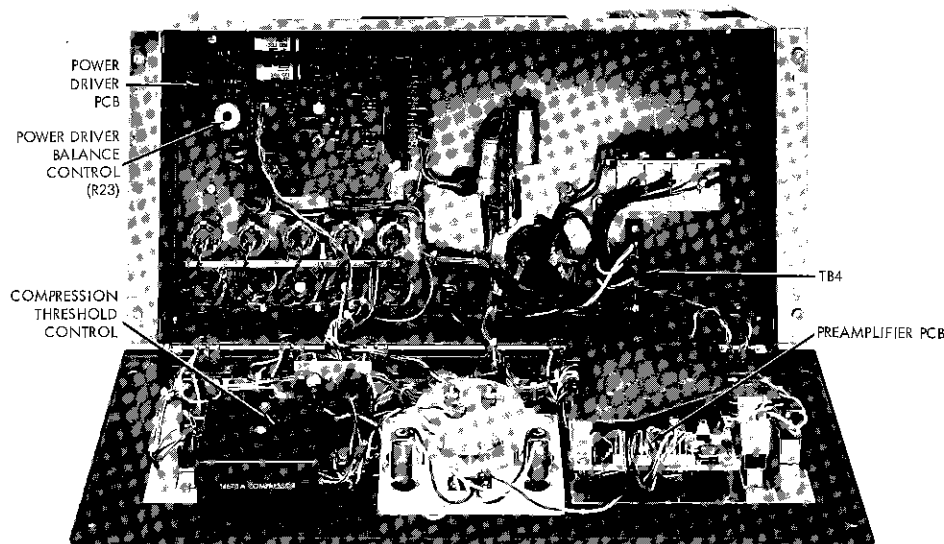

Figure 2. Front View 1608A with Hinged Front Panel Opened
1. Remove four screws securing front panel, open and lower panel (see Figure 2).